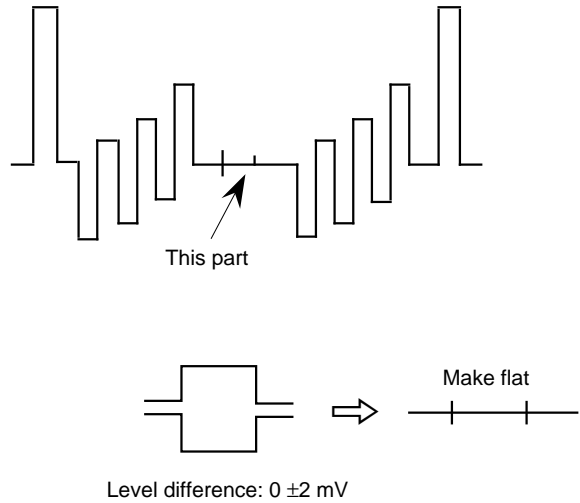

Fig. 5-6
7. As shown in Fig. 5-6, adjust the B-Y CLAMP OFFSET data so that the pedestal and clamp offset pulse level becomes equal.